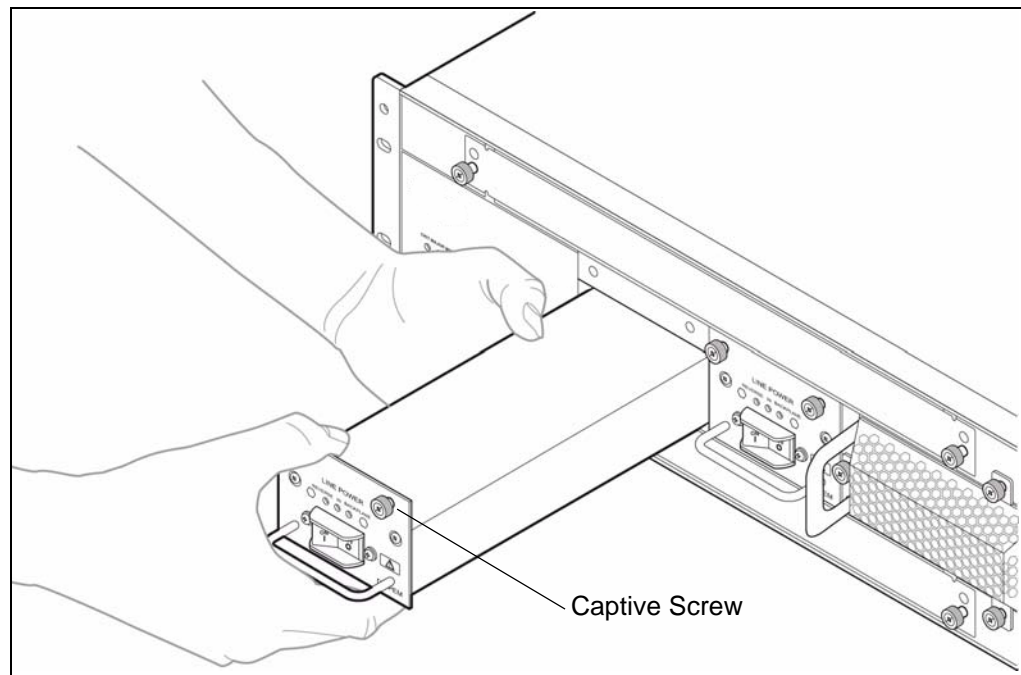

Figure C.1 - Inserting the Replacement DC PEM
8. Insert the replacement PEM (see **Figure C.1**).